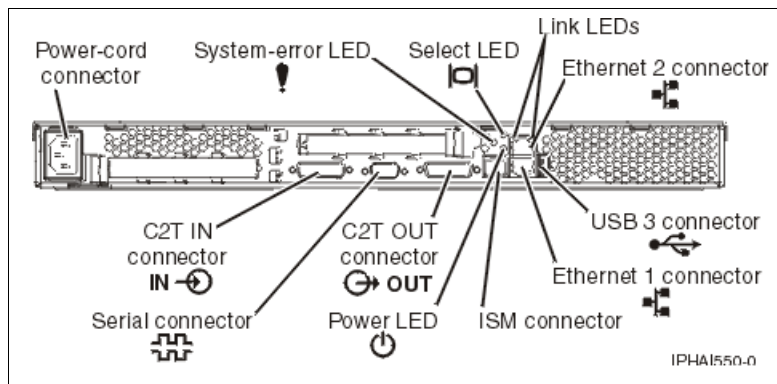

Figure 3-3 Back view of a rack-mounted HMC 7310-CR2
- A rack-mounted HMC 7310-CR2 (Figure 3-3)